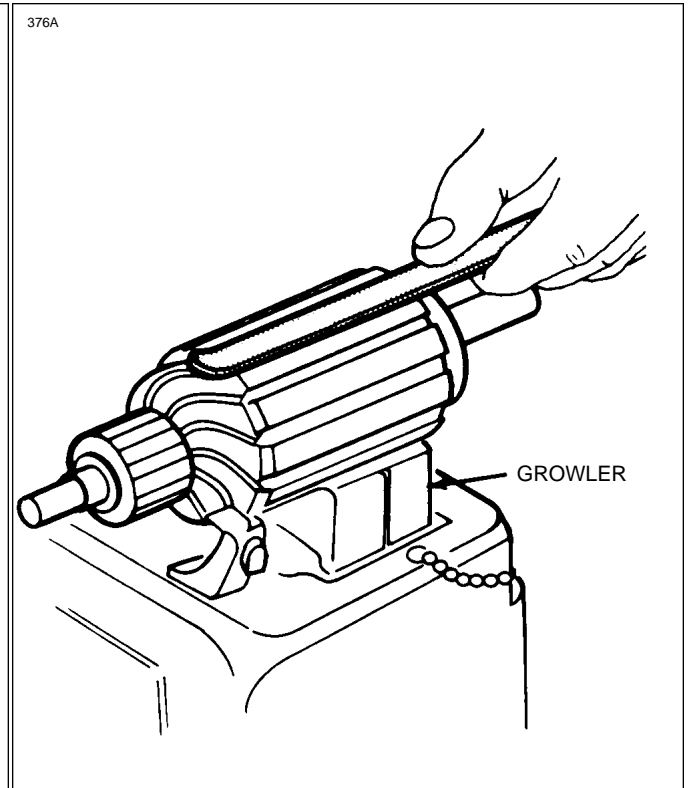

Figure 11-21 Testing Motor Armature for Shorts
c. To test for shorted armature coils, a growler is used. Refer to Figure 11-21. The armature is placed on the growler and slowly rotated by hand while a steel strip is held over the core so that it passes over each armature core slot. If a coil is shorted, the steel strip will vibrate.